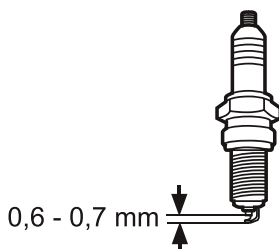

Fig. 29
- > Check the spark plug (18) for damage and wear. The colour of the electrode should be light-brown coloured.
- > Dry the spark plug (18) with a soft cloth if it is wet from fuel.
- > Check the spark plug gap; it should be 0.6 – 0.7 mm (Fig. 29).